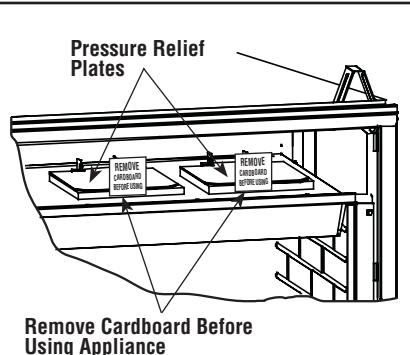

Figure 10
2. Remove Front Face Assembly (*refer to Figure 10, page 12*) by lifting and pulling straight out from the fireplace.